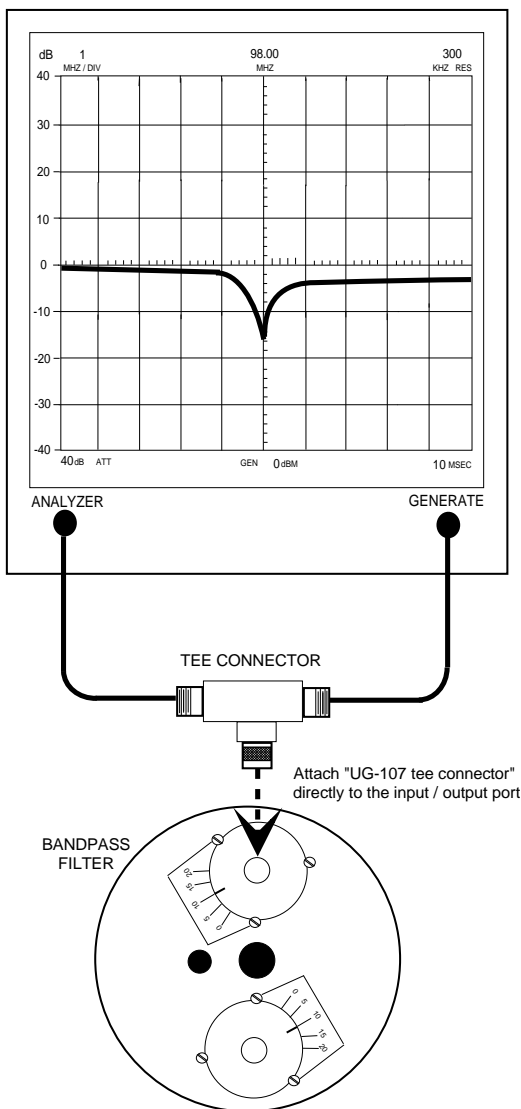

Figure 4: Measuring the rejection notch.
3. Measure its rejection notch as shown in figure 4 and record the value for comparison with the unlabeled port. The amplitude of the rejection notch is directly proportional to the insertion loss .